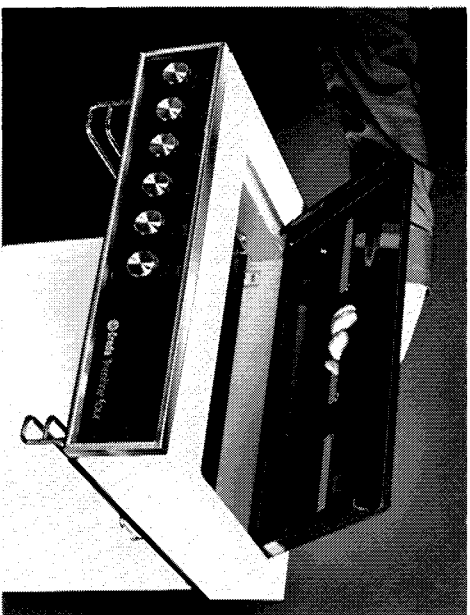

Fig. 3
**Grill** — Remove the outer cover (Fig. 3), this can best be washed in the sink. Remove the grill pan and the wire grid food supports. It is best to wash these items immediately after use to prevent stains from being burnt on when used again. Wipe the metal grill surround with a cloth — do not use an aerosol spray or abrasive on this area.